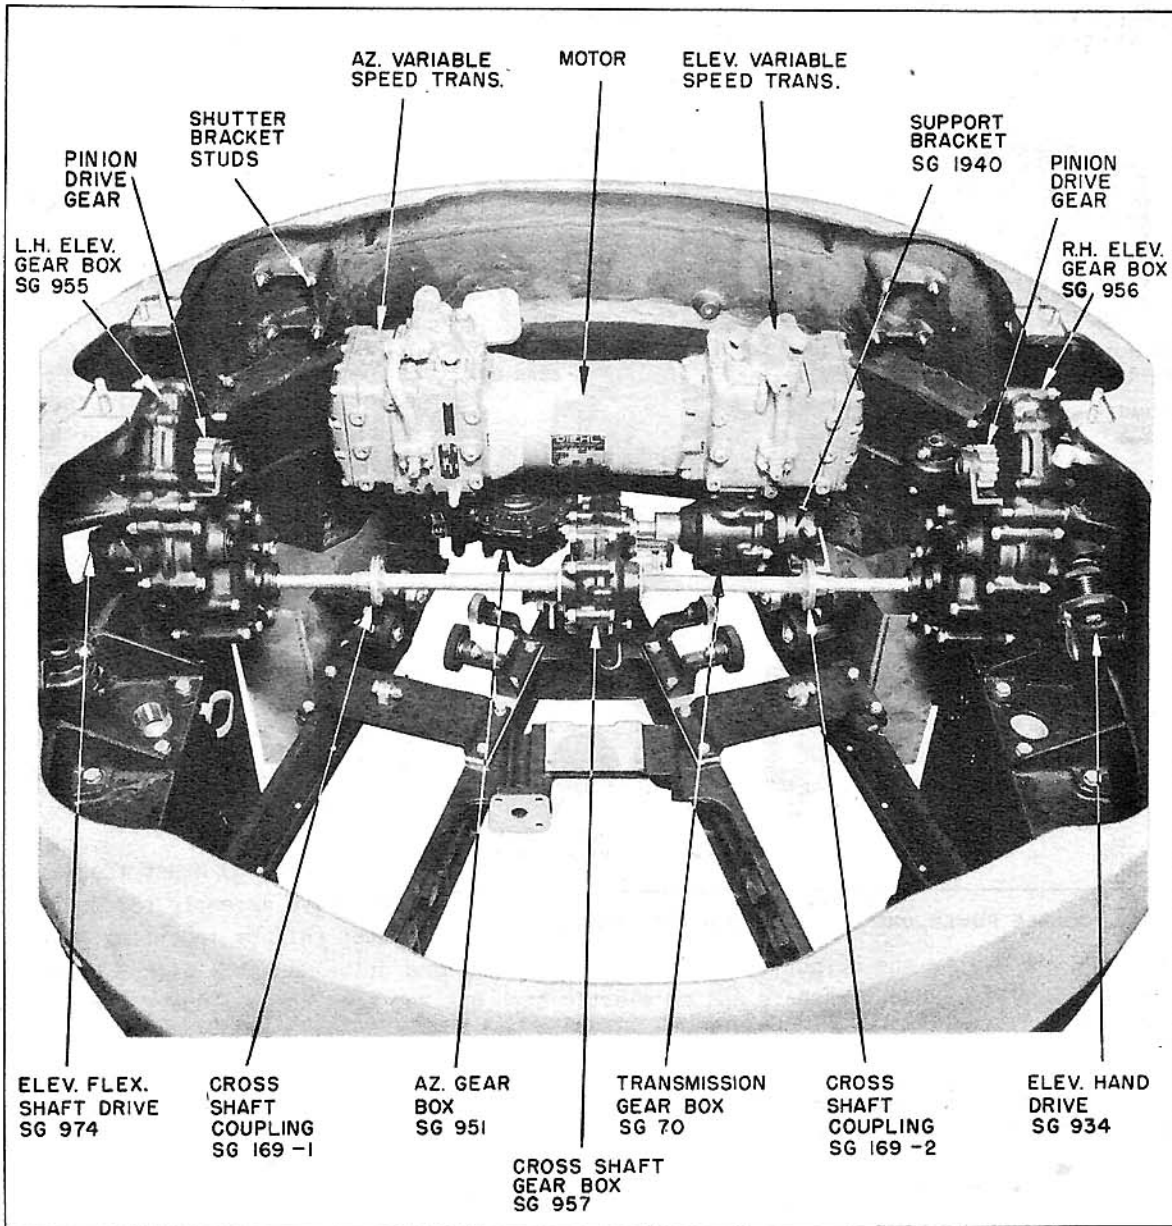

FIGURE 37
(9) Elevation Gear Boxes. - (a) Install left and right elevation gear boxes in the unit housing by means of 3 studs each. Secure each gear box on lower stud, using a washer and elastic stop nut. Be sure that elevation to sight and elevation hand drive units (Figure 19) are attached to the gear boxes. (See Figure 37.)
(b) Mount support bracket to unit housing by means of 2 bolts (5/16"-24, 2-3/4") with 2 washers and an elastic stop nut. (See Figure 37.)
(1) Gun Slot Shutter Brackets. - (a) Fasten the left and right gun slot shutter brackets (SG 965 and SG 965-1) to the 4 studs in the unit housing, using a washer and elastic stop nut on each stud (see Figures 37 and 39).
(6) Cross Shaft Couplings. - (a) Fit the right hand adjustable cross shaft coupling to the right hand elevation gear box shaft. (See Figure 37.)
(7) Cross Shaft Gear Box. - (a) Mount the cross shaft gear box assembly to the center rail, using 2 bolts (1/4"-28, 1-1/4") with 2 washers and an elastic stop nut. (See Figure 37.)